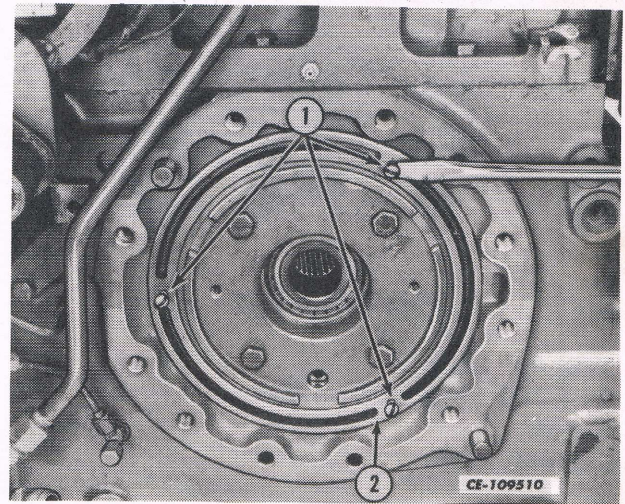

Fig. 5
3. Install screws (1) in the three tapped holes provided in the brake piston. Using a screwdriver, pry on the underside of the screw heads equally all the way around to remove the brake piston. See Fig. 5.